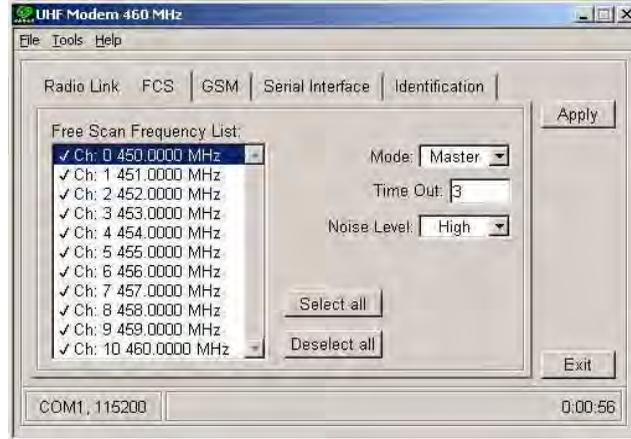

Figure 2-26. FCS Tab
2. Click on the **FCS** tab (Figure 2-26 on page 63).